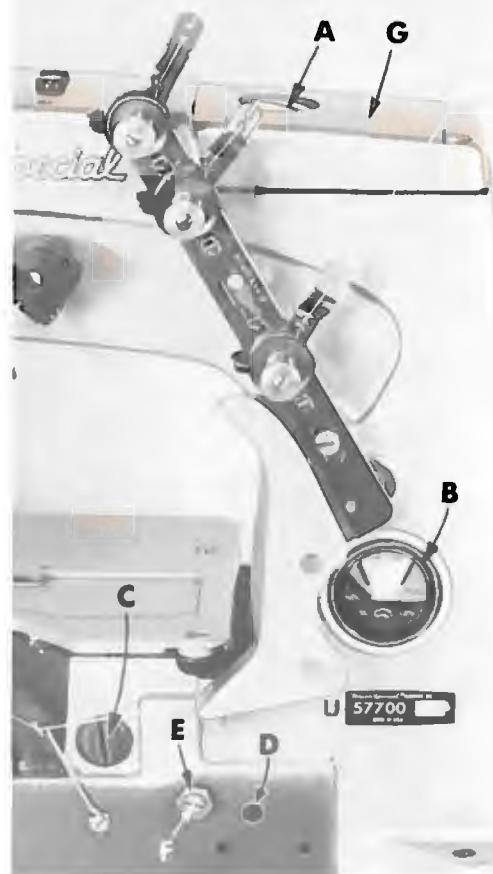

Fig. 2
Use a straight mineral oil of a Saybolt viscosity of 90 to 125 seconds at 100° Fahrenheit in the main reservoir. This is equivalent to Union Special specification No. 175. Fill main reservoir at plug screw in upper crank chamber cover (A, Fig. 2) and check oil level at gauge (B). Oil is at maximum level when needle is in gold band marked "Full". Oil should be added when needle is in gold band marked "Low".
Oil may be drained from main reservoir by removing plug screw (C, Fig. 2) located below the cloth plate at front of the machine.
2. Remove the oil reservoir plug screw (C, Fig. 2) and tip machine forward to drain oil from the reservoir.
5. Fill main reservoir to a level even with the bottom contour of the knee press shaft bushing (D, Fig. 2).
6. Loosen lock nut (E) on calibrating screw (F), and turn the screw to the left or right until the gauge needle rests in the middle of the gold band marked "LOW".
7. Tighten lock nut (E) and replace plug screw (C).
Remove the head cover and upper crank chamber cover (G, Fig. 2). Check position of needle lever bearing oiler (A, Fig. 3) located inside the arm casting, below the upper crank chamber cover, which lubricates the needle lever stud (B). Make sure it is tilted downwardly and that its delivery end (C) contacts the inside wall of the bed casting at the back, just above the notch of the needle lever shaft stop collar. (Do not allow the oiler to rest on the needle lever). Allow 1/64 inch (.40 mm) clearance as in Figure 3.